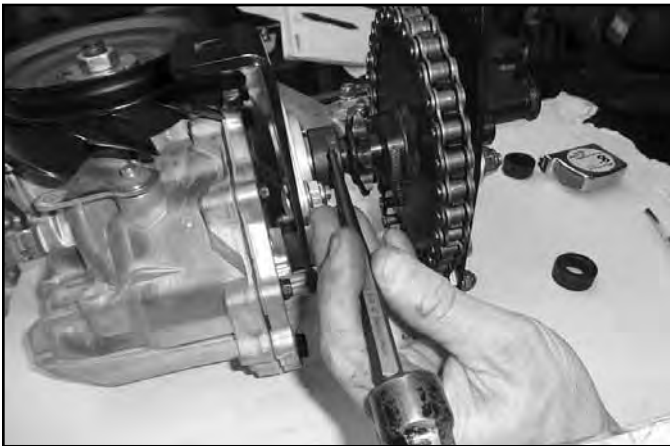

Fig. 124
6. Insert a pin punch into the recessed hole in the inner jack shaft lock collar. Tap the punch to turn the collar to tighten. Apply Loctite 242 to the set screw and torque to 12-14 ft-lbs. (16-19 Nm) (Fig. 124).